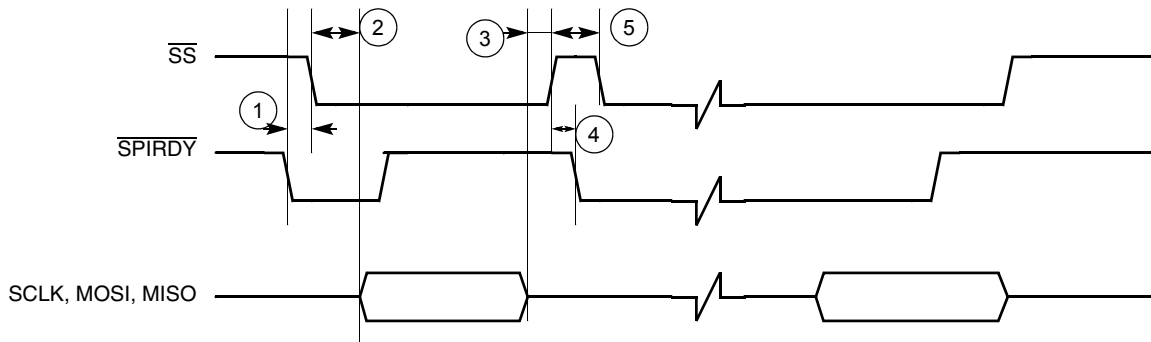
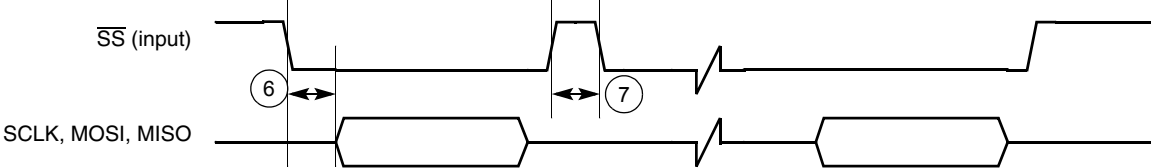

Figure 34. Master SPI Timing Diagram Using $\overline{\text{SPI_RDY}}$ Edge Trigger
Figure 38. Slave SPI Timing Diagram FIFO Advanced by $\overline{\text{SS}}$ Rising Edge
To use the internal transmit (TX) and receive (RX) data FIFOs when the SPI 1 module is configured as a master, two control signals are used for data transfer rate control: the $\overline{SS}$ signal (output) and the $\overline{SPI_RDY}$ signal (input). The SPI1 Sample Period Control Register (PERIODREG1) and the SPI2 Sample Period Control Register (PERIODREG2) can also be programmed to a fixed data transfer rate for either SPI 1 or SPI 2. When the SPI 1 module is configured as a slave, the user can configure the SPI1 Control Register (CONTROLREG1) to match the external SPI master's timing. In this configuration, $\overline{SS}$ becomes an input signal, and is used to latch data into or load data out to the internal data shift registers, as well as to increment the data FIFO. Figure 34 through Figure 38 show the timing relationship of the master SPI using different triggering mechanisms.
Table 18. Timing Parameter Table for Figure 34 through Figure 38